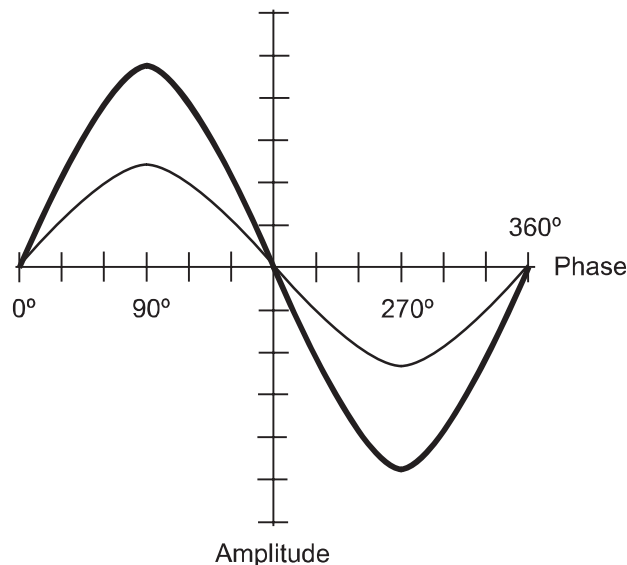

Fig. 2-13. Two sine waves in phase coincidence.
*Phase coincidence* means that two waves begin at exactly the same instant in time. This is shown in Fig. 2-13 for two waves having different amplitudes. The phase difference in this case is  $0^\circ$ . If two sine waves are in phase coincidence, the peak amplitude of the resultant wave, which is also a sine wave, is equal to the sum of the peak amplitudes of the two composite waves. The phase of the resultant is the same as that of the composite waves.